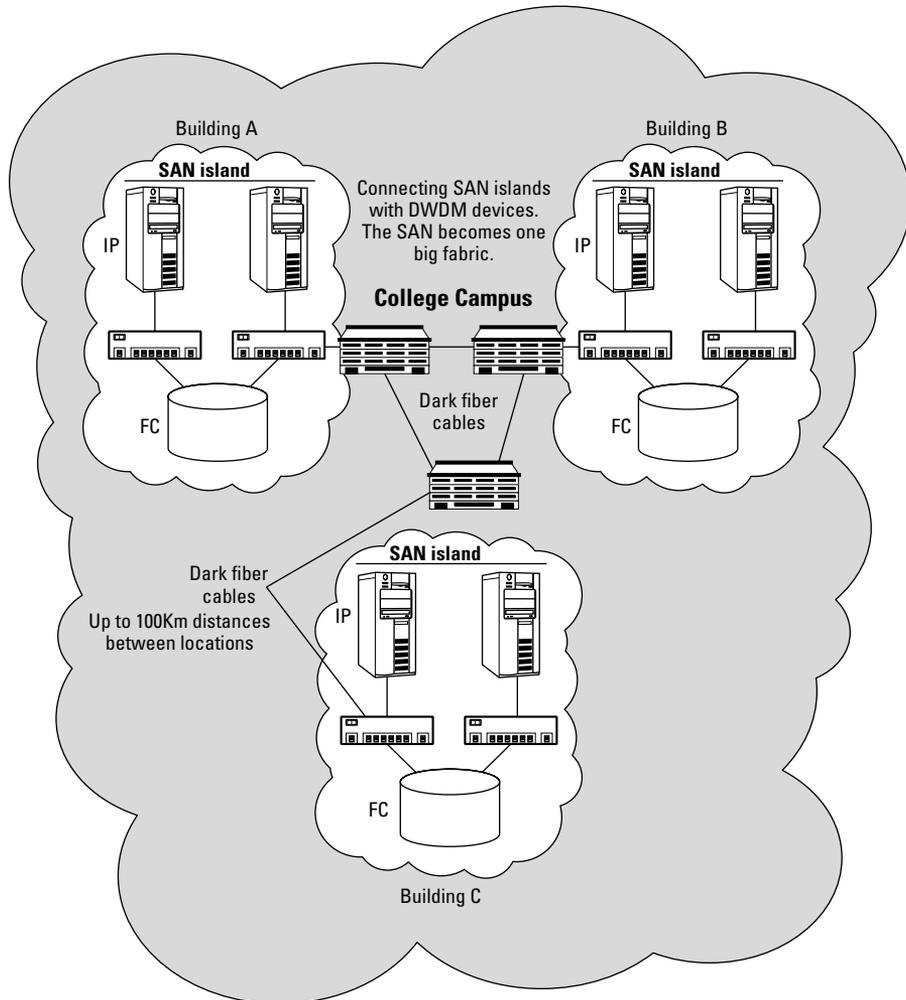

Figure 8-7:
- ✓ **Dense Wave Division Multiplexing (DWDM):** DWDM equipment boosts the light signal between switch connections so distances between switch ports can be longer. DWDM gear also splits a single wavelength of light into multiple frequencies. Each new frequency can be used as another connection. Using DWDM enables a single fiber-optic cable to carry huge amounts of data over long distances. If DWDM equipment is used between SAN locations, the amplifiers and high-powered lasers enable a single SAN fabric to extend beyond 100 km, as in Figure 8-7.